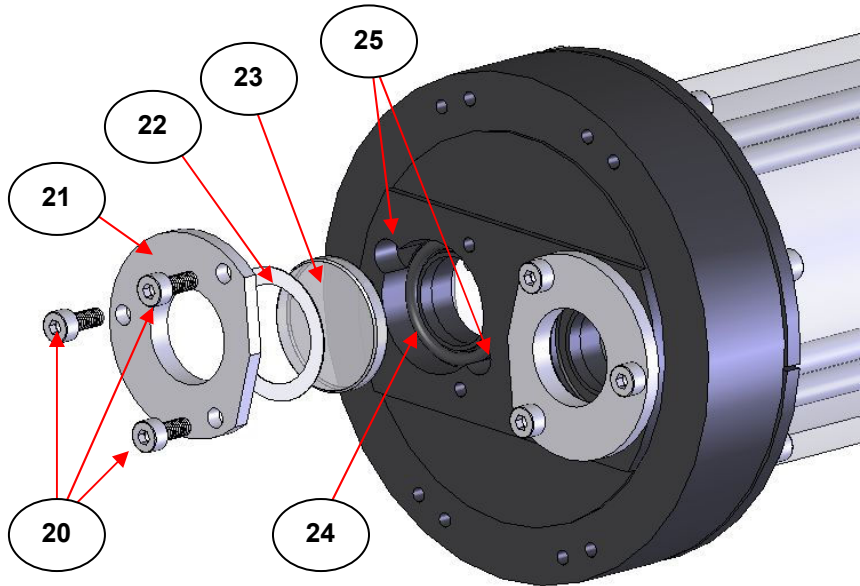
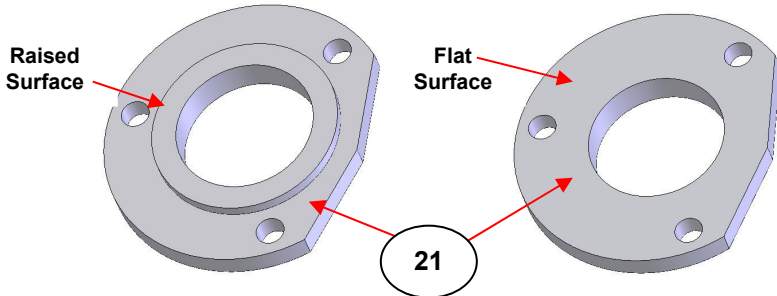

Fig 19. Window Assembly of Parts Separated at the Base of the Tornado™ T5 Gas Cell
Fig 20. Tornado™ C5 Window Flange Clamp Plate
Note: For the purposes of explanation, Figs 19 and 20 show the T5 cell parts which are the same for T10 and T20 cells too.
The window clamp plate (21) for the T5, T10 and T20 size gas cells has two different surfaces. (See Fig 20.) One side has a raised surface and the other side is flat. In the construction of the window assembly of parts seen at Fig 19, the flat surface for the clamp plate (21) is seen to be on the outermost side. This means that for this shown sequence of assembly of parts, the **raised** surface of the clamp plate (21) is in contact with the PTFE washer (22) for clamping and sealing a thinner CaF2 (**C**) or ZnSe (**Z**) window (23) into position. If a thicker KBr (**K**) window (23) is being clamped into position, then the **flat** surface of the clamp plate (21) must be in contact with the PTFE gasket (22).